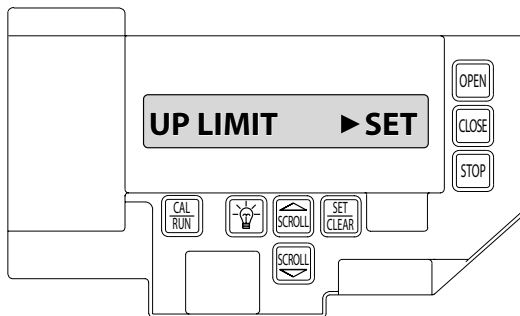

FIG. 5
4. Press SET/CLEAR key to switch display to "UP LIMIT>SET". FIGURE 5.
2. Press SCROLL until display reads "UP LIMIT>SET " or "DOWN LIMIT>SET." FIGURE 5.